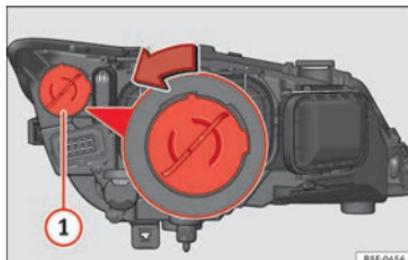

Fig. 104 Day light bulb.
- Turn the bulb holder » Fig. 104 ① to the left and pull.